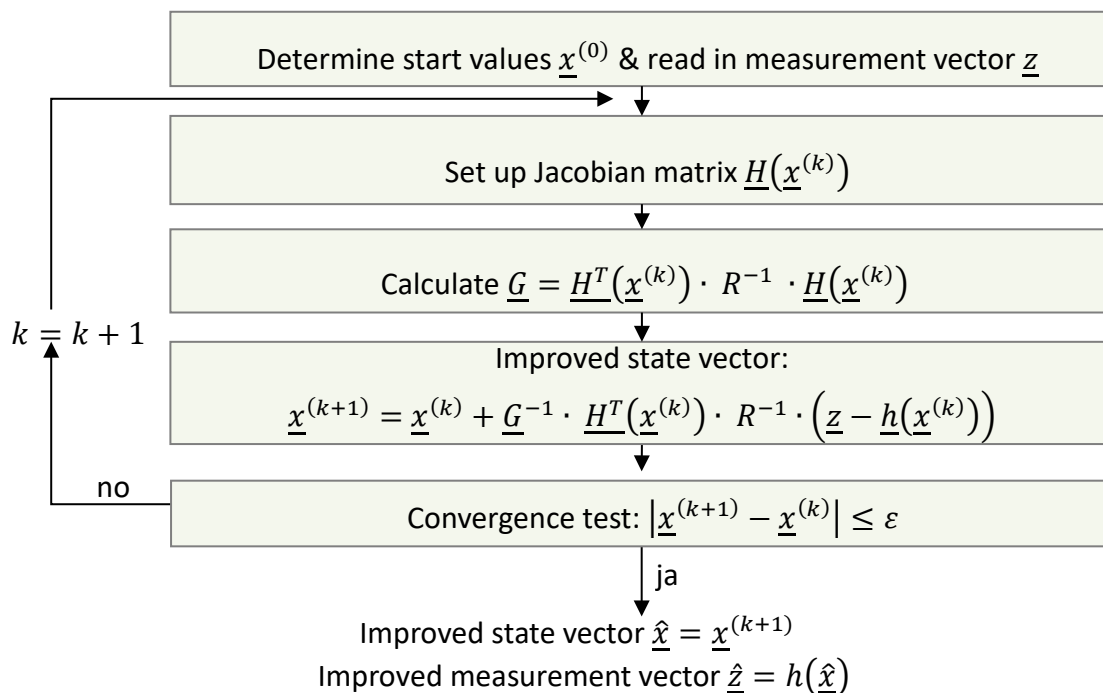

Figure 3.1: : State Estimation Algorithm
- As can be seen in Figure 3.1,  $\underline{H}(\underline{x}^{(k)})$  must be calculated first.